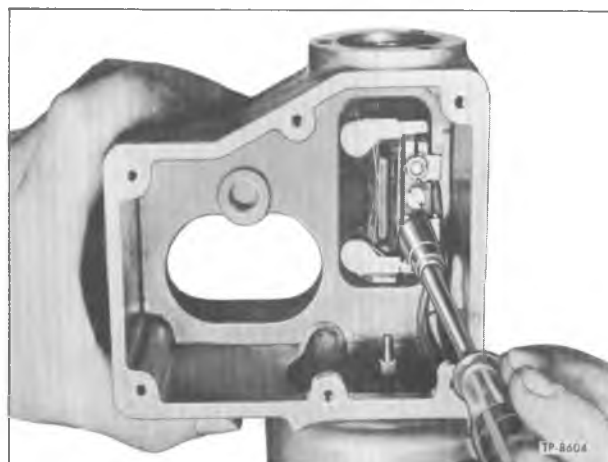

Figure 15—Removing Motor Wires
8. Remove the two lock nuts (19) from switch terminals (17). Pull off motor wires (fig. 15).
9. Remove three screws and lock washers (1) which attach motor cover (4) to housing. Pull out motor (6) with cover (4) attached to motor with two cover nuts (2). Remove grommet (7).
4. Remove the two lock nuts (19) from switch terminals (17). Pull off motor wires (fig. 15).
5. Remove three screws and lock washers (1) which attach motor cover (4) to housing. Pull out motor (6) with cover (4) attached to motor, with two cover nuts (2). Grommet (7) can then be removed.
6. Remove two jam nuts (9) and fiber washers (10) from outside of housing. On inside remove switch to housing screws (18). Remove automatic switch.
7. Do not disassemble torsion spring (23), and spring winding lever (22) unless necessary to replace one of the parts. If necessary to disassemble,